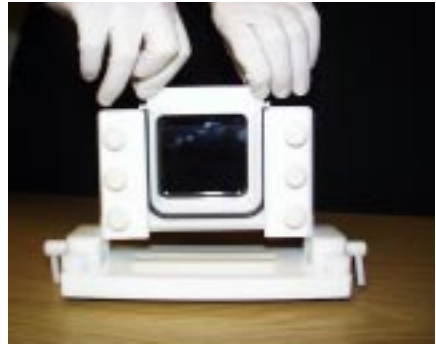

Fig 5
- Turn the cams through a maximum of $\sim 170^\circ$ so that the handles are facing almost vertically upwards, or until finger tight (fig 5). **DO NOT OVER TIGHTEN** past this point as this will only force the glass plates up off the silicone seals.